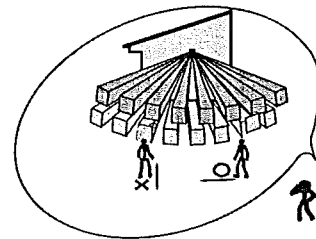

Fig. 3
4. Before mounting the PIR, please refer to Fig 3, 4 & 5 to choose proper location and height for the PIR. The PIR should be mounted to detect majority of traffic flow across the detection pattern.